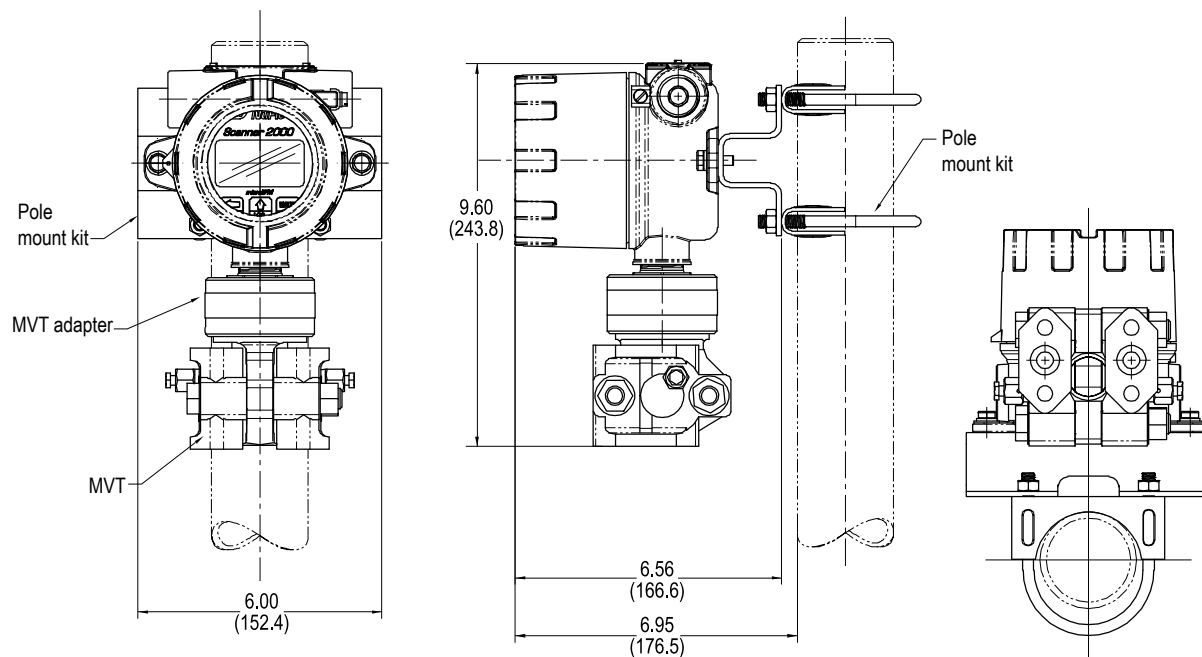

Figure A.4 —Scanner 2000 with MVT, remote-mounted on a 2-in. pole using a NuFlo hardware kit (Part No. 9A-30028004)
3. Position the U-bolt around the pipe and through the support bracket provided with the U-bolt (Figure A.4, page A-4).
Important The vertical pipe mount configuration shown in Figure A.4 is not recommended for side-port MVTs when mated with a block manifold for liquid or steam measurement. A horizontal pipe mount should be considered for these installations.